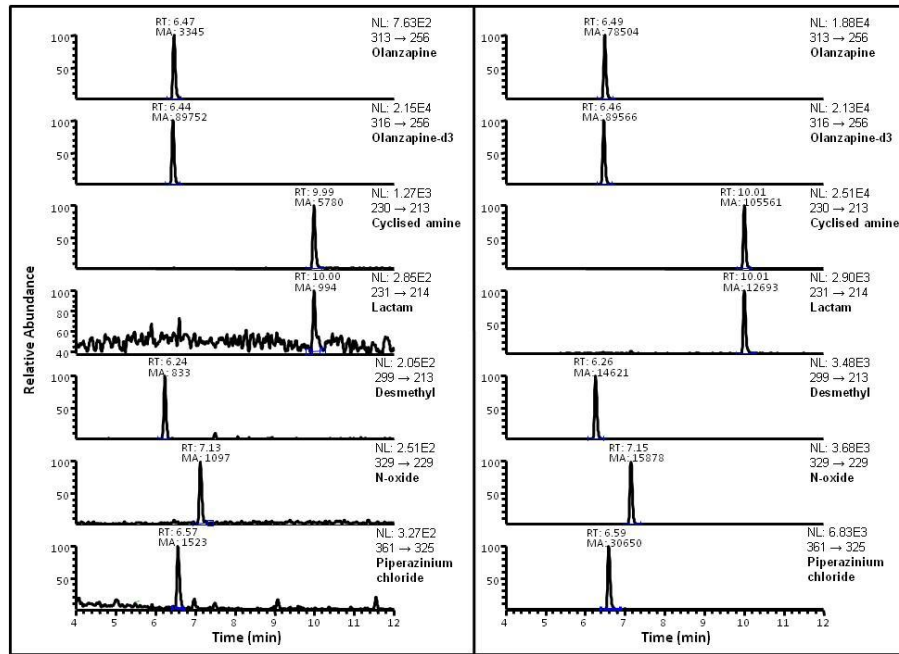

Figure 2: LC-MS/SRM chromatogram of Olanzapine and its impurity metabolites (LOQ and HQC).
- The expected result for the STDs and ISTDs is shown in the following figure 2.